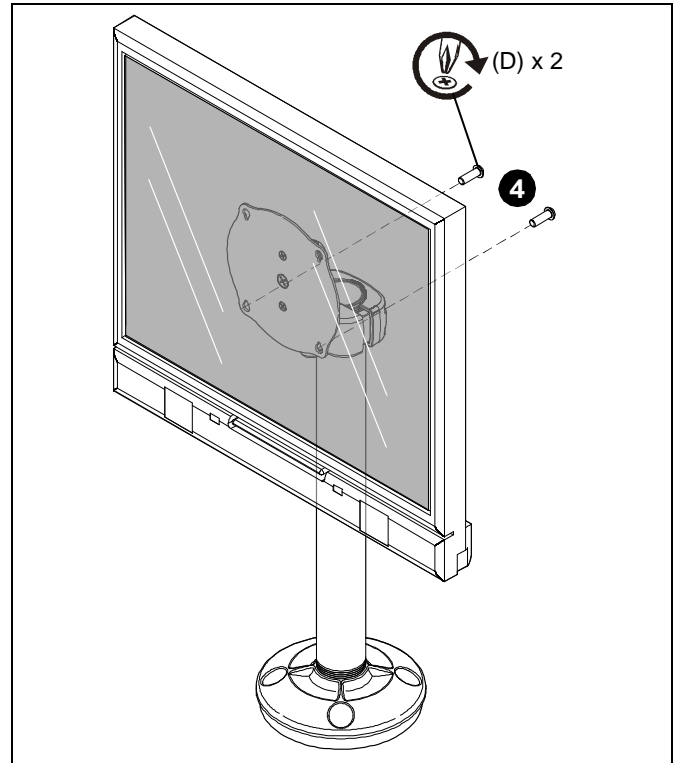

Figure 7
4. Install two screws (D) through display mounting plate and into lower mounting holes in display back. (See Figure 7)